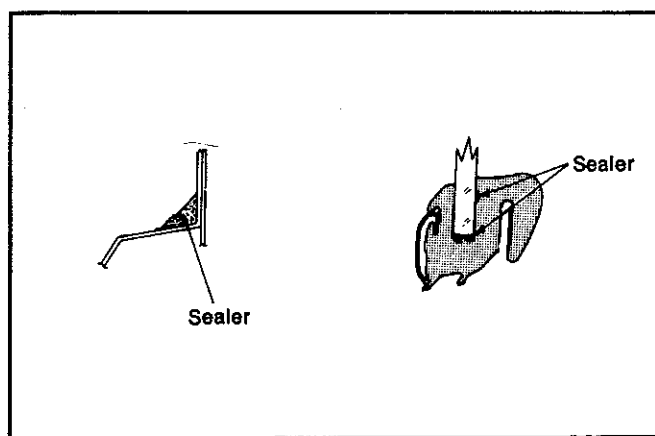

Fig. 24—Applying sealer
(4) Apply a bead of butyl type sealer to the window opening flange of the rear door and also between the weather strip and glass — refer Fig. 24.
(5) Position the glass to the window opening ensuring the pull cords are placed inside.
(6) With an assistant pushing the glass from the outside, commence withdrawing the cord from the inside of the door to work the weather strip over the window opening flange.